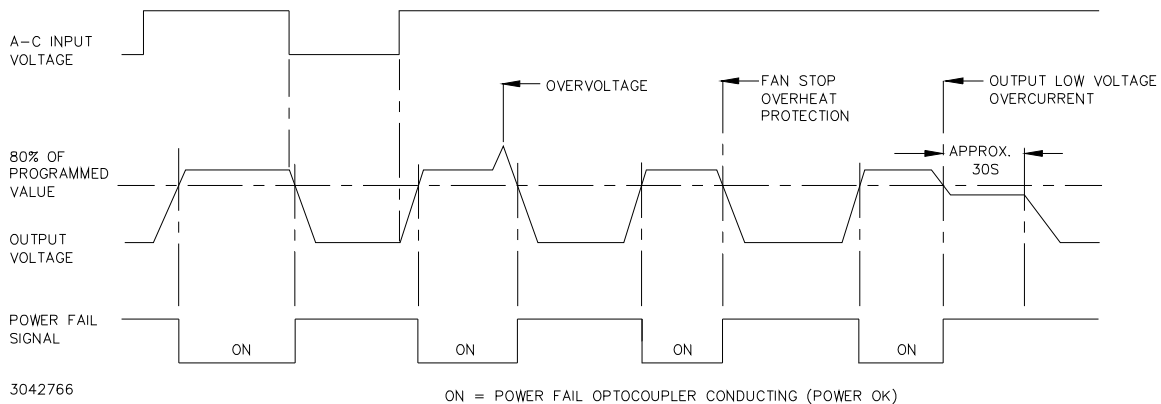
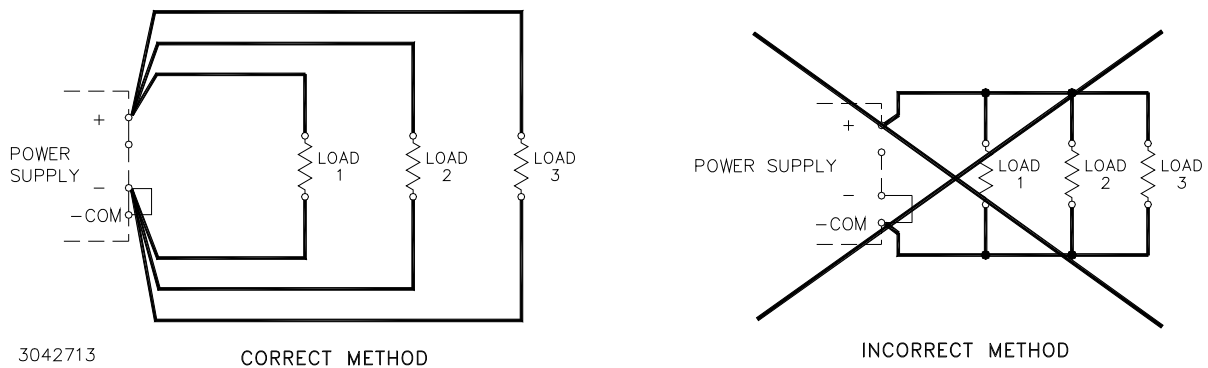

FIGURE 7. RKE 1500W POWER FAILURE TIMING DIAGRAM
FIGURE 8. CORRECT AND INCORRECT METHODS OF LOAD CONNECTION
3. **DC output terminals (+, -):** Connect to load (see Figure 8).
6. **Output Voltage Adjust (RV):** This terminal (together with the REF terminal) is used for remotely controlling output voltage (see PAR. 4.2).
7. **Current Balance (CB):** This terminal is used when several power supplies are connected in parallel (see PAR. 6.2).
8. **Power failure (+PF, -PF):** These terminals output an open logic signal if output voltage drops to 80% or lower of a set voltage (5V or lower for 36V model), or if output voltage is shut down due to overvoltage or current limit protection, fan speed failure, or overheating. (see Figure 7).
The load is connected across DC output (+) and (-) terminals (see Figure 8).